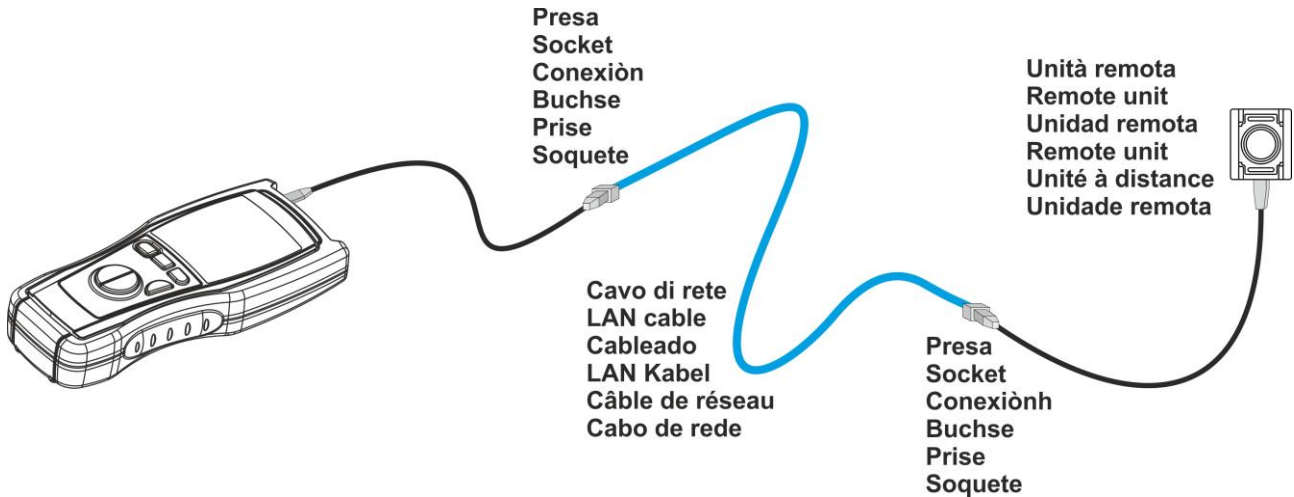

Fig. 8: Connections of the instrument's terminals during LAN tests
4. Connect the cable under test to the instrument and to the remote unit if necessary through patch cables (see Fig. 8)